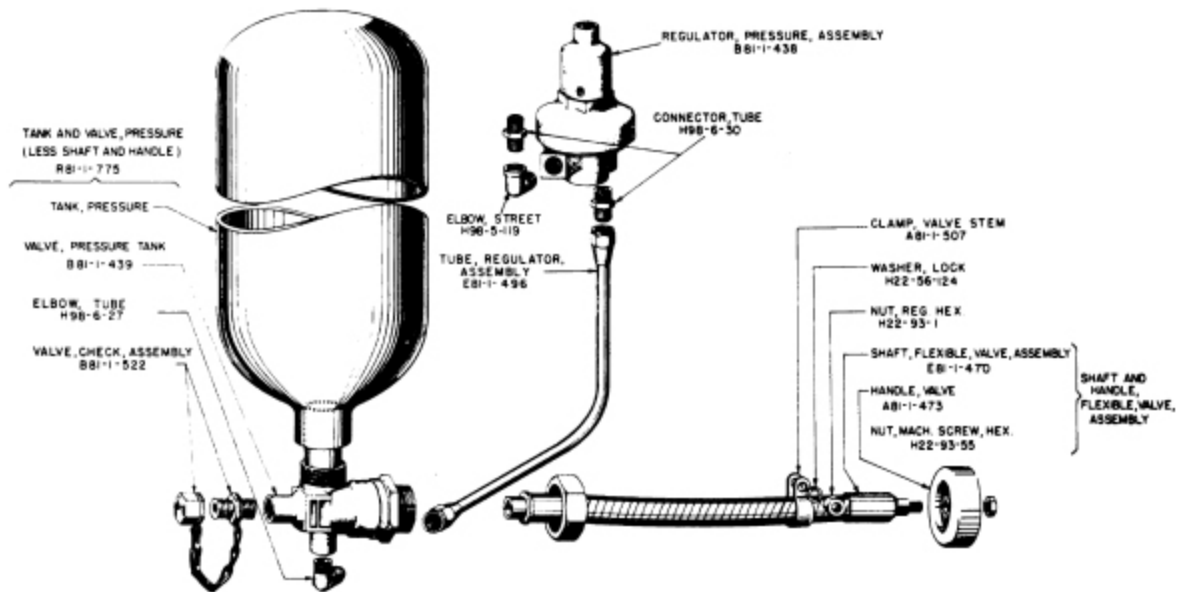

Fig 33. Pressure system disassembled, showing nomenclature and Chemical Warfare Service stock numbers for requisitioning spare parts.
a. Description and functioning. The pressure tank and valve assembly (Fig 33) includes:
(4) Check valve. (Figs 33 through 35) The check valve has the same function as the valve on a vehicular tire tube, but it is much heavier in construction and different in design because the pressure in the flame thrower is 50 times greater than that in an automobile tire tube. Connected by threads to the pressure valve, the check valve permits compressed air or nitrogen to enter the pressure tank during charging (Pars 31 and 32) but prevents its escape when the outside source of pressure is removed. The cap is removed from the check valve only for charging or testing.
b. Removal. (Fig 33) To prevent damage to threads, leaks, and loss of pressure and range, remove pressure tank and valve assembly only when necessary.
(1) If either pressure tank, pressure-tank valve, or check valve are damaged or defective, all three must be replaced as a unit. No attempt may be made to repair any of these parts or their connections. If makeshift repairs or improvised parts are devised, serious accidents can result because of the extremely high pressures to which the equipment is subjected.
(2) Keep all threaded connections tightened. If a leak is suspected at any threaded connection, follow procedure in Paragraph 53 d.
a. Description and functioning. The regulator automatically reduces the variable pressure of air or nitrogen in the pressure tank to a constant operating pressure of approximately 350 pounds per square inch in the fuel tanks. The regulator is located at a protected position in the tank group of the M2-2 portable flame thrower, where it is not readily subject to tampering or damage from the outside. The regulator tube with fittings connects the pressure-tank valve and pressure regulator. (Fig 33) Its outlet is connected to the fuel tanks by the diffusion-pipe assembly. (Par 68 a) Either of two interchangeable types of regulators is furnished: the spring type (Figs 33, 36, and 37), and the dome type (Fig 38).